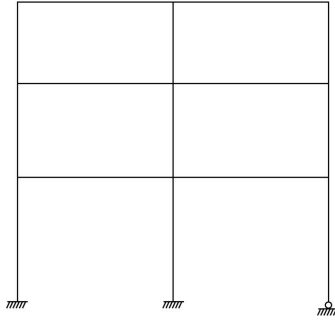

Fig. Q. 62
62. The degree of freedom of the frame shown in Fig. Q. 62.